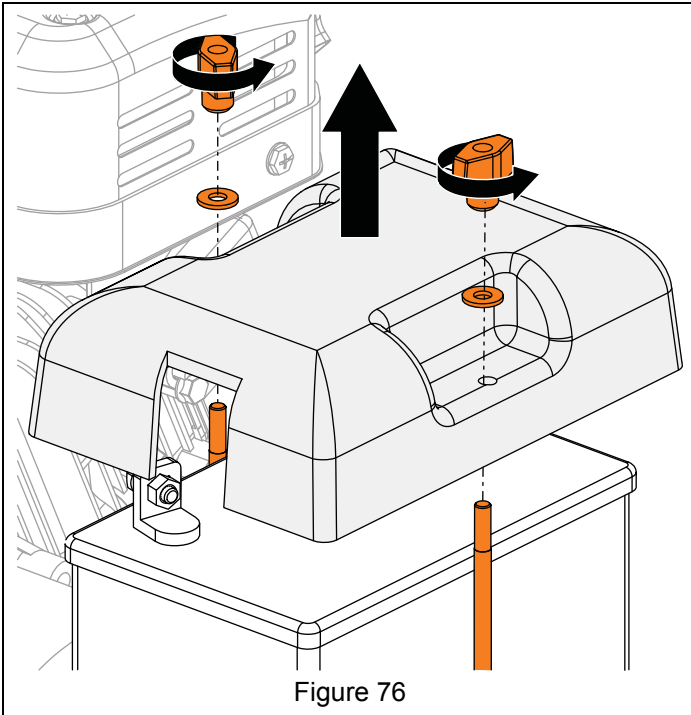

Figure 76
3. Remove wing knobs and other hardware retaining battery cover and remove cover. See Figure 76.
3. Reinstall battery cover and route battery cables through cutout in cover. Secure with two hex bolts, two flat steel washers and two wing knobs. See Figure 76.